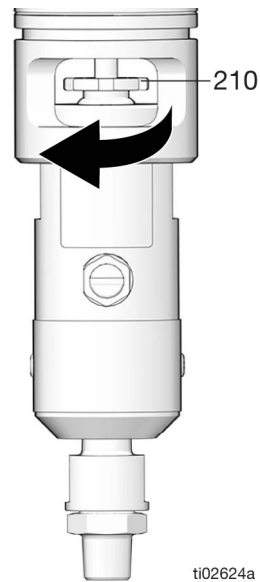

FIG. 26: Tighten packing nut
6. Tighten the packing nut (210) using a 5/32 in. hex key (FIG. 26).